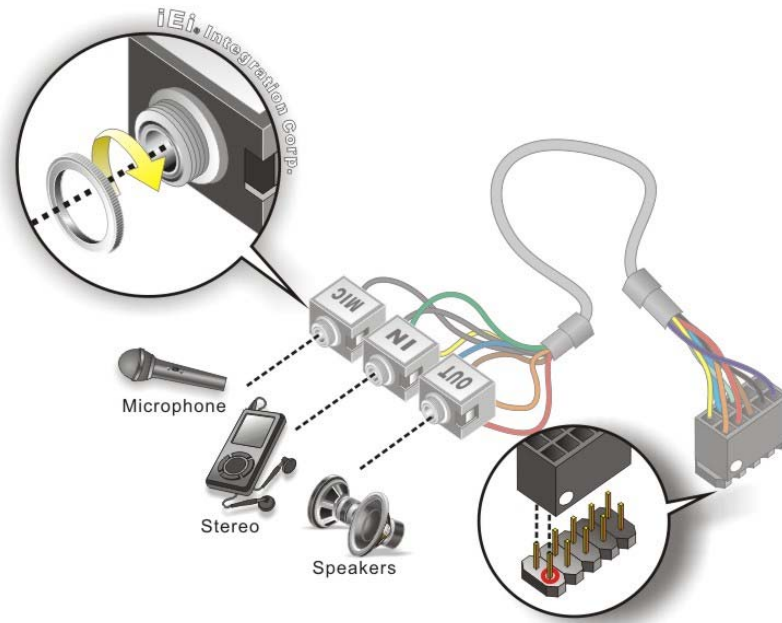

Figure 4-12: Audio Kit Cable Connection
Step 2: Align pin 1. Align pin 1 on the on-board connector with pin 1 on the audio kit connector. Pin 1 on the audio kit connector is indicated with a white dot. See Figure 4-12.